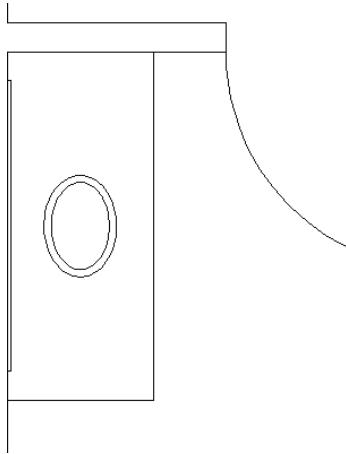

FIGURE 5.67: The completed sink fixture
9. Use the Offset tool to offset the ellipse 1" (25 mm) to the outside (see Figure 5.67).